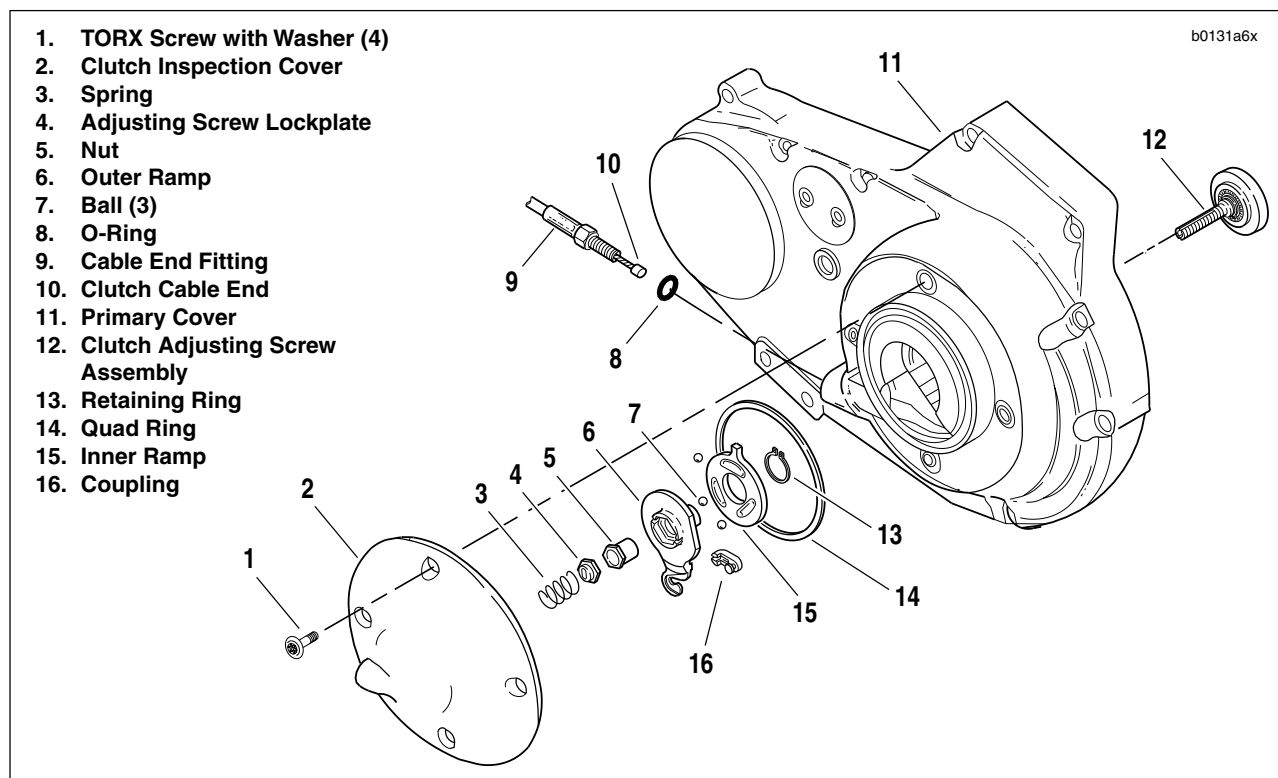
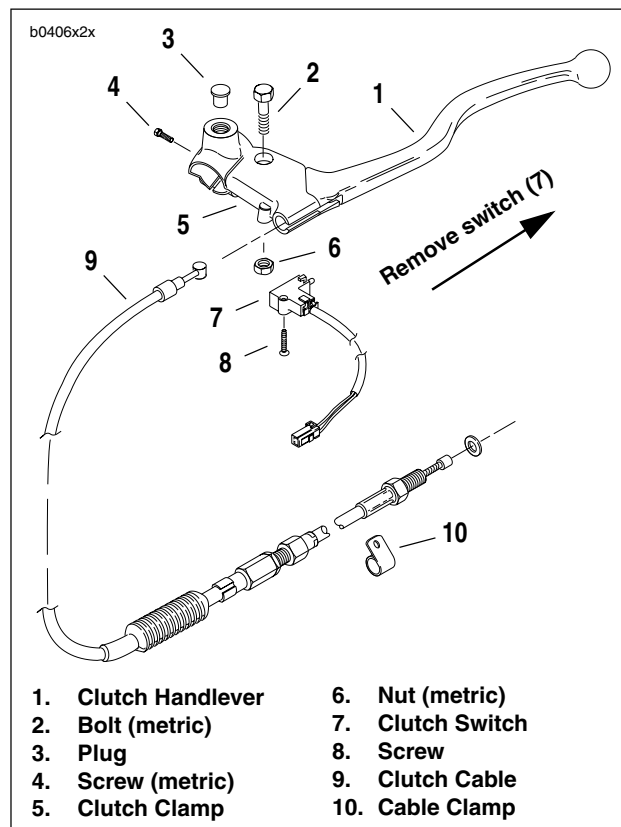
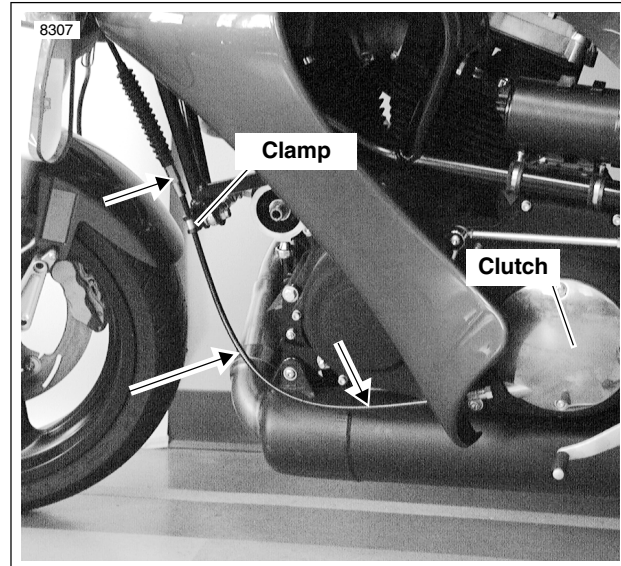

Figure 2-87. Clutch Release Mechanism
Figure 2-88. Clutch Hand Control
Figure 2-89. Clutch Cable Routing, Lower
2. See Figure 2-87. Remove four TORX screws (1) with washers and clutch inspection cover (2). Do not damage or dislodge quad ring (14) in primary cover (11).
3. Slide spring (3) with attached hex lockplate (4) from flats of adjusting screw (12).
4. Turn adjusting screw clockwise to release ramp and coupling mechanism. As the adjusting screw is turned, ramp assembly moves forward. Unscrew nut (5) from end of adjusting screw.
5. Remove hook of ramp (6) from button at the rear of cable end coupling (16). Remove cable end (10) from slot in coupling.
6. Turn cable end fitting (9) counterclockwise to remove clutch cable lower section from primary cover (11). Remove O-ring (8) from cable end fitting.
1. See Figure 2-88. Detach clutch switch (7).
- a. Remove screw (8).
1. See Figure 2-87. Install O-ring (8) over cable end fitting (9) of clutch cable lower section. Turn fitting clockwise to install into primary cover (11). Tighten to 3-5 ft-lbs (4-7 Nm).
2. Fit coupling (16) over cable end. Place hook of ramp around coupling button and rotate assembly counter-clockwise until tang on inner ramp (15) fits in slot of primary cover (11).
3. Thread nut (5) on adjusting screw (12) until slot of screw is accessible with a screwdriver. Fit nut hex into recess of outer ramp (6) and turn adjusting screw counter-clockwise.
- a. See Figure 2-89. Route cable along left side of primary chaincase and up through clamp on front isolator tie bar.
1. See Figure 2-88. Attach clutch clamp (5) as follows.
- c. Place clamp next to switchgear housing. Fasten to handlebar with screw (4) (metric). Tighten to 30-35 in-lbs (3-4 Nm).
3. Apply small amount of LOCTITE ANTI-SEIZE LUBRICANT to bolt (2). Attach handlebar with bolt (2) (metric) and nut (6) (metric).
4. Attach clutch switch (7) with screw (8).
- c. See Figure 2-89. Route cable down left side of bike, through clamp, along primary chaincase to clutch.